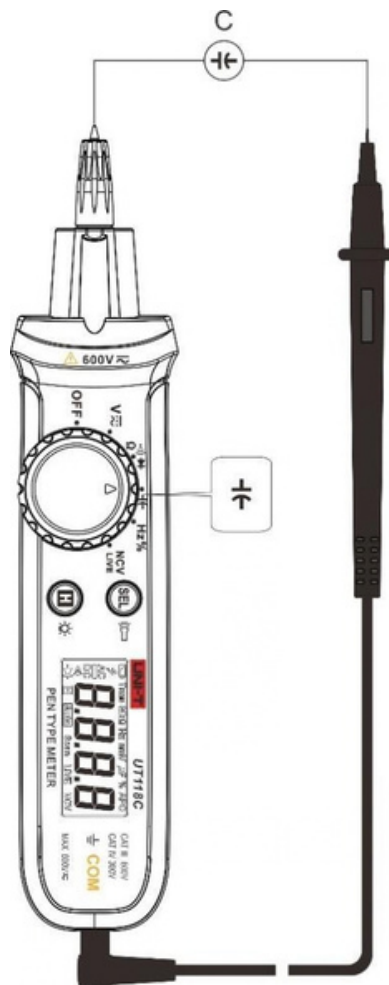

Figure 5
11.3 MeasureCapacitance(Figure 5)